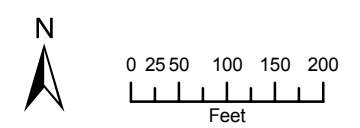

Figure 4-1
- Six (6) DPT borings will be drilled along a north-south line (including previous DPT borings DPT-05, DPT-08, and DPT-15 where ash was encountered) and three (3) DPT borings will be drilled along an east-west line as an initial attempt to define the lateral and vertical extent of the ash. The initial nine (9) DPT borings are identified in red as shown on Figure 4-1.
- Eight (8) DPT borings will be drilled in a grid pattern to further define the lateral and vertical extent of the ash based on the results of the initial nine (9) DPT borings. The proposed eight (8) DPT borings are identified in blue as shown on Figure 4-1.
Based on the observation of ash in the first seventeen (17) DPT borings, an additional thirteen (13) DPT borings will be drilled to further delineate the lateral and vertical extent of the ash. For planning purposes, the proposed thirteen (13) DPT borings are identified in black as shown on Figure 4-1. The remaining thirteen (13) DPT borings will be adjusted in the field as necessary to delineate the lateral and vertical extent of ash.